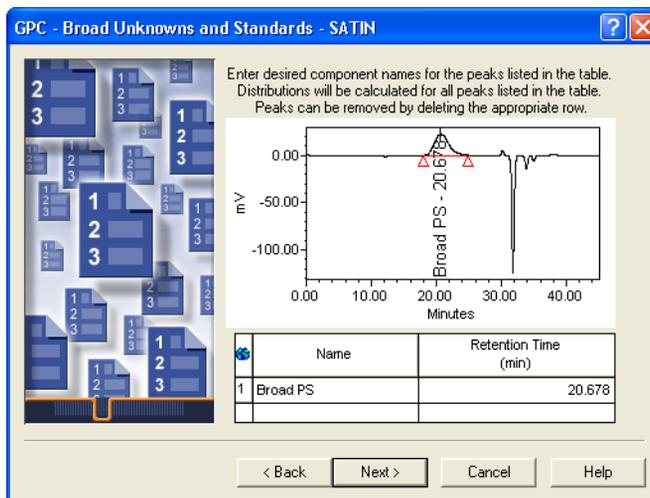

Figure 3-12 Setting GPC Broad Unknowns and Standards Parameters
13. Click **Next** to go to the GPC–Broad Unknowns and Standards page (Figure 3-12).
14. Enter the component name, **Broad PS**, in the Name field (Figure 3-12). The component name is copied to the Slicing table in the Processing Method window (Figure 3-16).